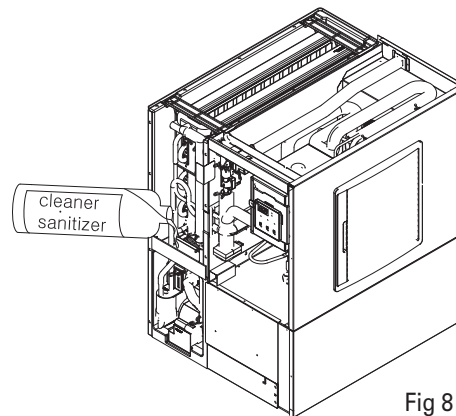

Fig 8
- 6) Remove front panel, and insulation Front (Fig 8). Add 16 oz. of Nu-Calgon ice machine cleaner into water tank. (for 650Lb or larger machines, add 24 oz.) Machine will proceed to the clean cycle after a 60 second time delay.
- 2) Mix 2.5 oz. of Nu-Calgon ice machine sanitizer per gallon of water and use with a soft towel/sponge/nylon brush to gently sanitize disassembled parts, plastic parts of evaporator, insulator front, and insulator top. (see Fig 8)
- 10) Remove front panel, and front insulation front (Panel 1 on Figure 8). Add 32 oz. of Nu- Calgon ice machine sanitizer. (for 650Lb or larger machine add 48 oz.) Machine will proceed to the sanitizing cycle after a 60 second time delay.